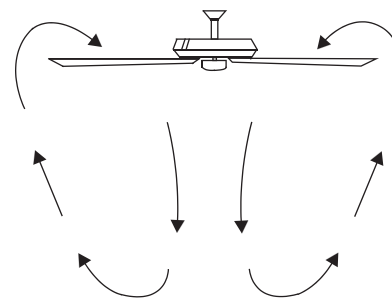

Figure 17
**Warm weather** - (Counter-Clockwise direction) A downward air flow creates a cooling effect as shown in Figure 17. This allows you to set your air conditioner on a higher setting without affecting your comfort.